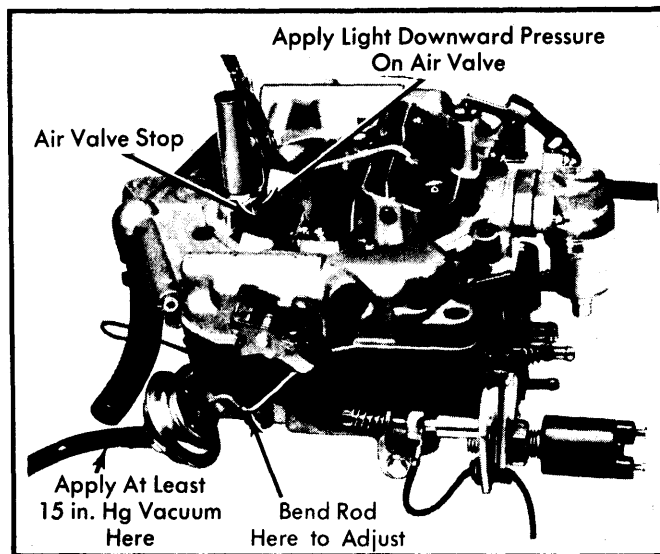

Fig. 7 Adjusting Choke Diaphragm Connector Rod
- 1) Make sure diaphragm is securely mounted to carburetor. Using an outside vacuum source, apply at least 15 in. Hg of vacuum to diaphragm. Make sure diaphragm stem is fully seated. See Fig. 7.